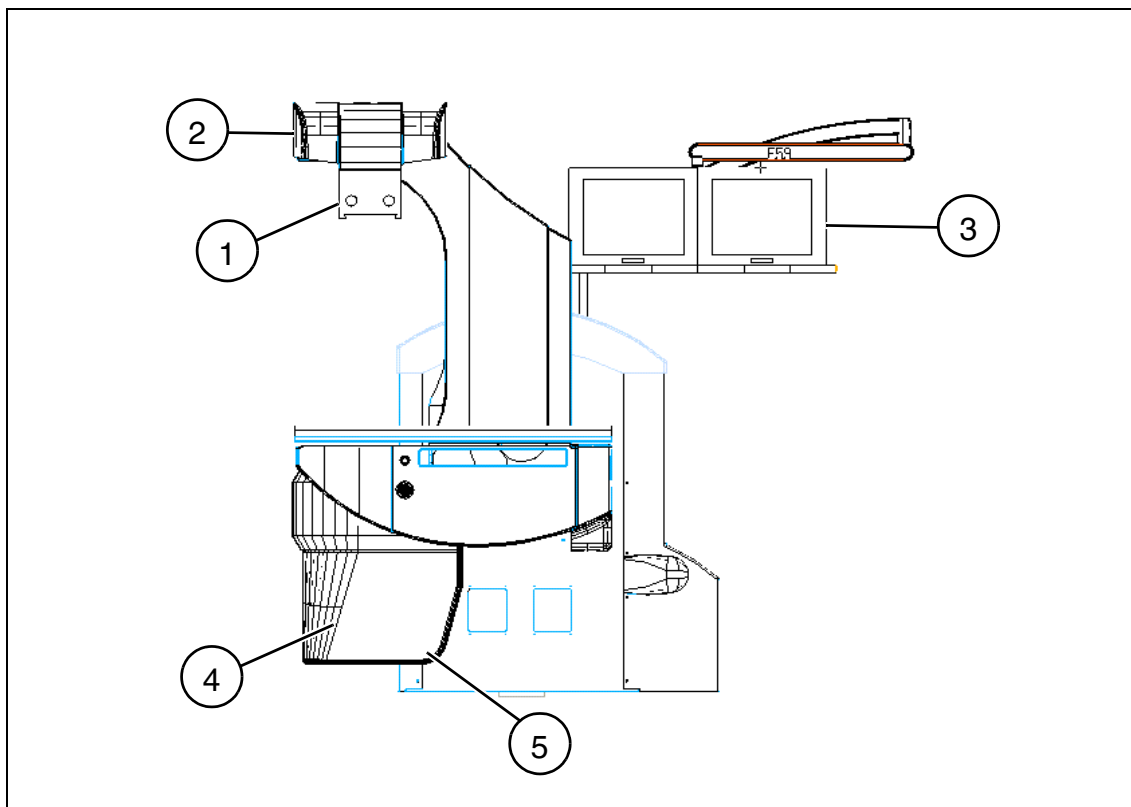

Fig. 4
- Detach the camera attachment (5/Fig. 4); **lead**.